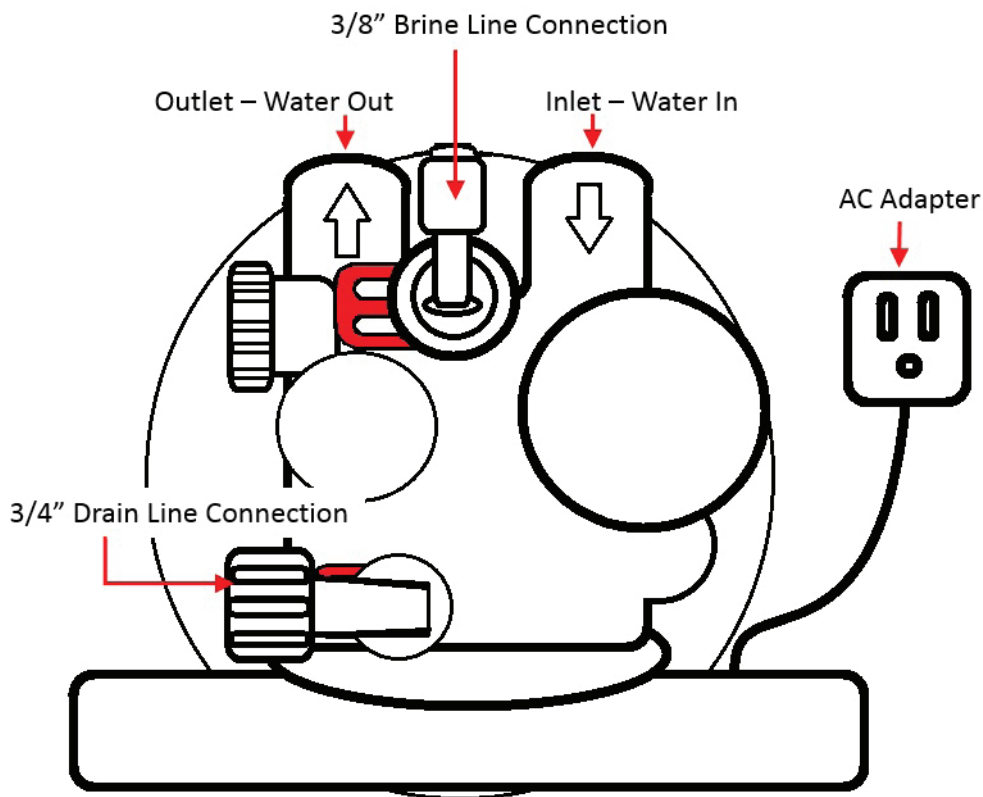

Figure 2
- Make sure to connect the inlet pipe to the Platinum Softener inlet and the outlet to the Platinum Softener outlet (see Fig 2). You can see the in and out arrows on the bypass valve which is where the pipes are connected. Unit will not work if connected backwards.